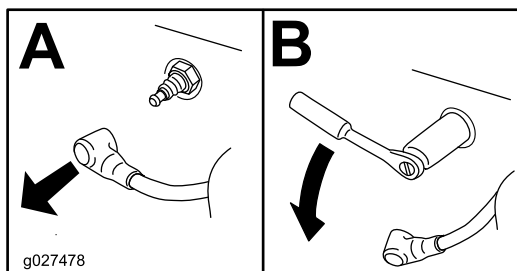

Figure 40
3. Remove the spark plug (Figure 40).